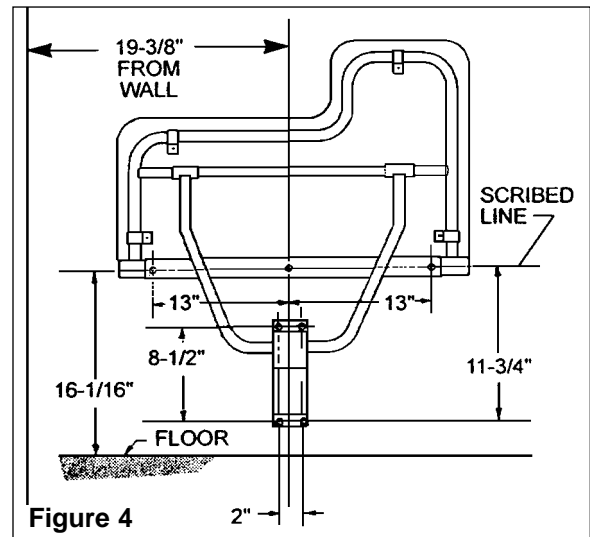

Figure 4
1. Measure and scribe a horizontal line 16-1/16" above the finished floor (see Figure 4).